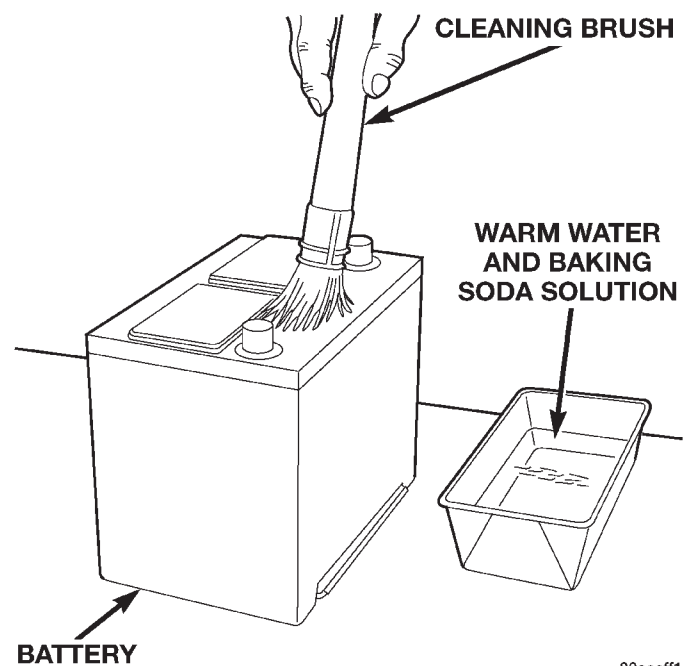

Fig. 19 Clean Battery - Typical
(9) If the battery is to be reinstalled, clean the outside of the battery case and the top cover with a sodium bicarbonate (baking soda) and warm water cleaning solution to remove any acid film (Fig. 19). Rinse the battery with clean water. Ensure that the cleaning solution does not enter the battery cells through the vent holes. If the battery is being replaced, refer to **Battery Ratings and Classifications** in the Specifications section of this group. Confirm that the replacement battery is the correct size and has the correct ratings for the vehicle.